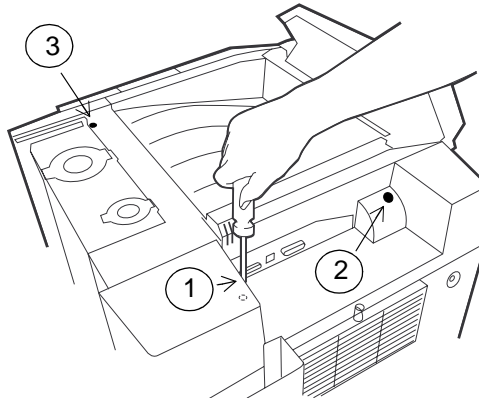

Figure 4-37 Removing Top Cover
3. Loosen the three captive screws on the top cover, as shown in Figure 4-37.